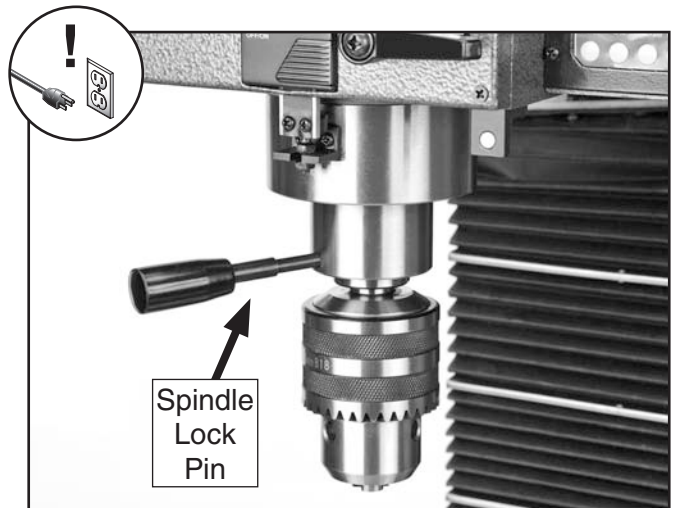

Figure 16. Spindle lock pin holding spindle.
3. Insert the spindle lock pin into the hole in the side of the spindle (see **Figure 16**).